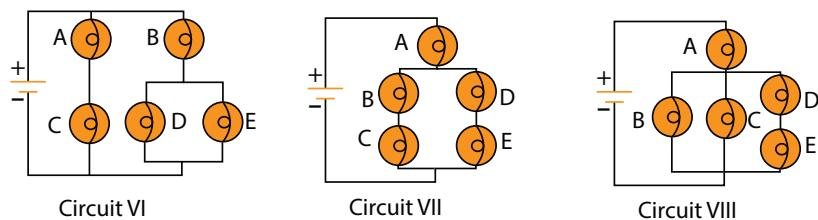

Figure 2.4.3: Circuits VI, VII and VIII of the experiment.
15. Consider the circuits VI to VII shown in Figure 2.4.3. Predict the brightest bulb in each circuit. Compare the relative brightness of lightbulb A in each of the three circuits and complete the following table with the measurements.
16. Observe the brightest light bulb of each of the three circuits of Fig. 2.4.3. Use the following boxes to write your measurements and do your calculations so you can provide your explanations for the brightest lightbulb in each of the three circuits.